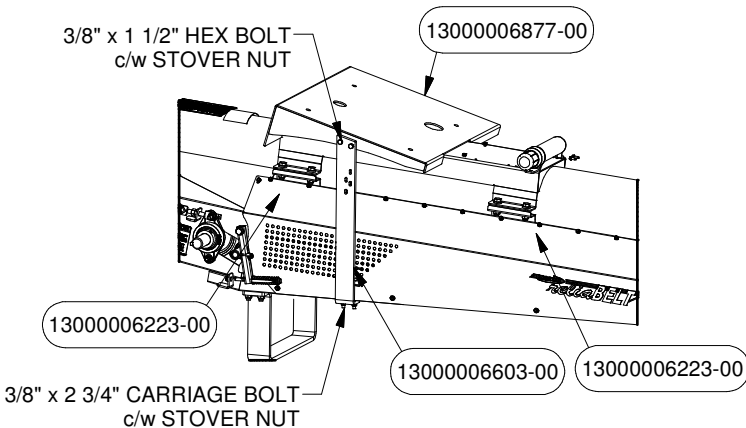

FIGURE 1
1. Attach the Motor Mount PN# 6877 and Clamps PN# 6223 using Hex Bolts c/w Nylock Nuts and Washers to the Intake PN# 6872. See Figure 1 for Details. Take note that the Motor Mount should be right against the Bottom Return. Fasteners can be found in Bolt Bag PN# 6914 in Hardware Box PN# 6913.
To secure the motor mount in place, attach the Motor Mount Brace PN# 6603 as shown in Figure 1 using Fasteners from Bolt Bag PN# 6951. Brace and Bolt Bag can be found in Hardware Box PN# 6918.